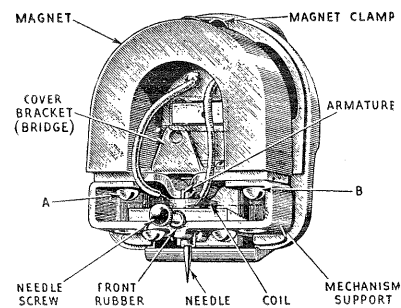

Figure 6
In order to replace a defective coil or the hardened pivot rubbers (see Figure 6), it is necessary to proceed as follows:
- (d) Remove screws A and B, Figure 6, and then remove the mechanism assembly from the pole pieces.
- (h) After remagnetizing, it is necessary to correctly center the armature. This may be done quite accurately by feeling its play after the needle is inserted. A little practice will quickly show which way an adjustment is necessary to have the armature centered properly. The adjustment is made by loosening screws A and B (Figure 6), and sliding the mechanism slightly in relation to the pole pieces.